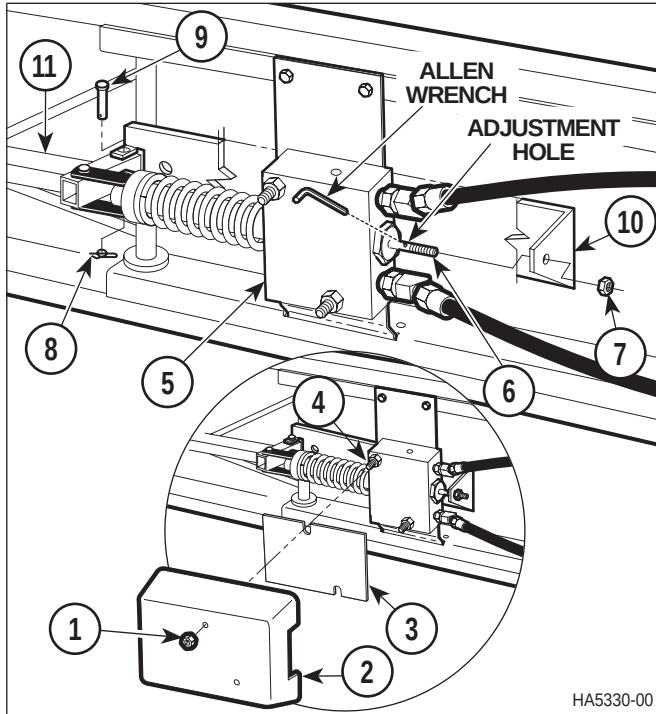
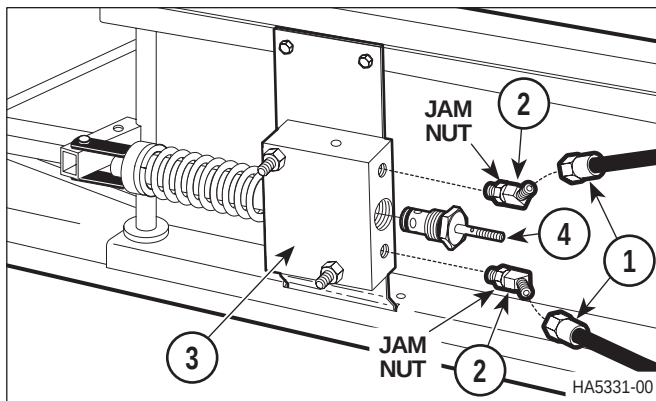

Figure 4-11. Preparation For Manual Release Valve Removal / Installation
Figure 4-12. Manual Release Valve Removal / Installation
- (1) Remove lower cover (Refer to para 4.2).
- (2) Depress the caster control pedal to the "brake" position.
- (3) Lay the stretcher onto its side.
- (4) Remove two nuts (1, Figure 4-11), pump cover (2), and pad (3) from two bolts (4).
- (5) Place a drain pan under pump assembly (5).
- (6) Insert a small Allen Wrench into adjustment hole of manual release valve stem (6); then using Allen Wrench to hold manual release valve stem stationary, remove nut (7).
- (7) Remove rue ring (8), clevis pin (9), and disconnect release bar (10) from foot pedal (11). Slide release bar off of manual release valve stem (6).
- (8) Tag and disconnect hoses (1, Figure 4-12) from elbows (2).
- (9) Loosen jam nuts; then remove elbows (2) from pump assembly (3).
- (1) Coat o-rings and threads of manual release valve (4, Figure 4-12) with Vaseline or oil.
- (2) Install manual release valve (4) in pump assembly (3) and tighten to 25 - 30 ft-lbs (33.9 - 40.7 N•m).
- (3) Coat o-rings of elbows (2) with Vaseline or oil.
- (4) Install elbows (2) on pump assembly (3), making sure to tighten jam nuts of elbows *after* elbow itself has been tightened and positioned.
- (5) Connect hoses (1) to elbows (2).
- (6) Slide release bar (10, Figure 4-11) over manual release valve stem (6). Secure other end of release bar (10) to foot pedal (11) with clevis pin (9) and ring (8).
- (7) Insert a small Allen Wrench into adjustment hole of manual release valve stem (6); then using Allen Wrench to hold manual release valve stem stationary, install nut (7). Tighten only one or two turns.
- (8) Raise stretcher to upright position.
- (9) Add oil to hydraulic system (Refer to para 4.4).
- (10) Purge air from the hydraulic system (Refer to para 4.5).
- (11) Adjust the pump assembly release point (Refer to para 4.8).